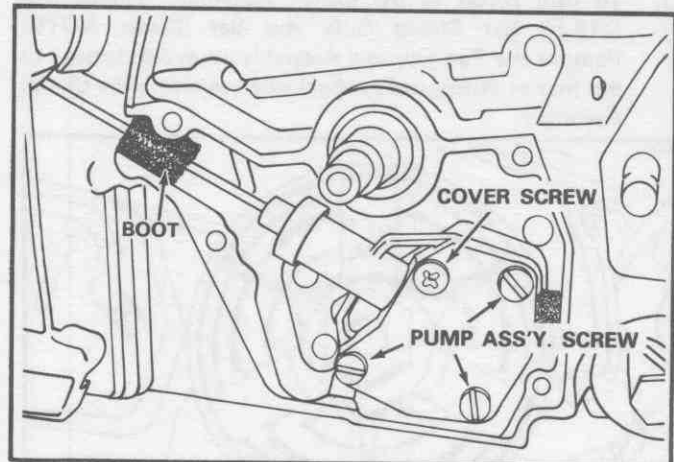

Fig. 50
57. Disconnect Pump Lever from Push Rod and remove. If it is necessary to remove the Manual Pump Rod, the Rod Boot should be removed also. When replacing slide Boot on Rod, reinstall and make sure Boot is in correct position. See Fig. 50.